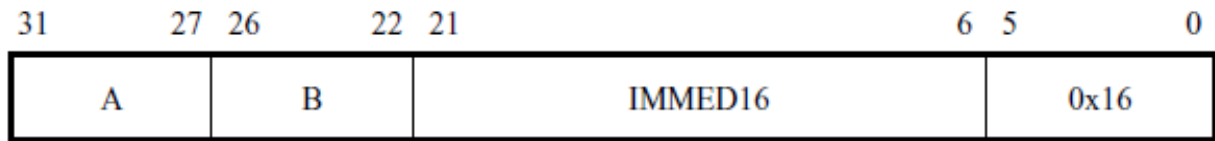

Figure 15: Format for the `blt` instruction.
1. Derive the machine code representation of the instruction `blt r7, r8, LOOP`. In the *Nios II Processor Reference Handbook* (Altera [2006]), we can find that the `blt` instruction has the format shown in Figure 15. Use registers `r7` and `r8` as registers A and B, respectively, and determine the branch offset needed to branch to the instruction at location `LOOP`.